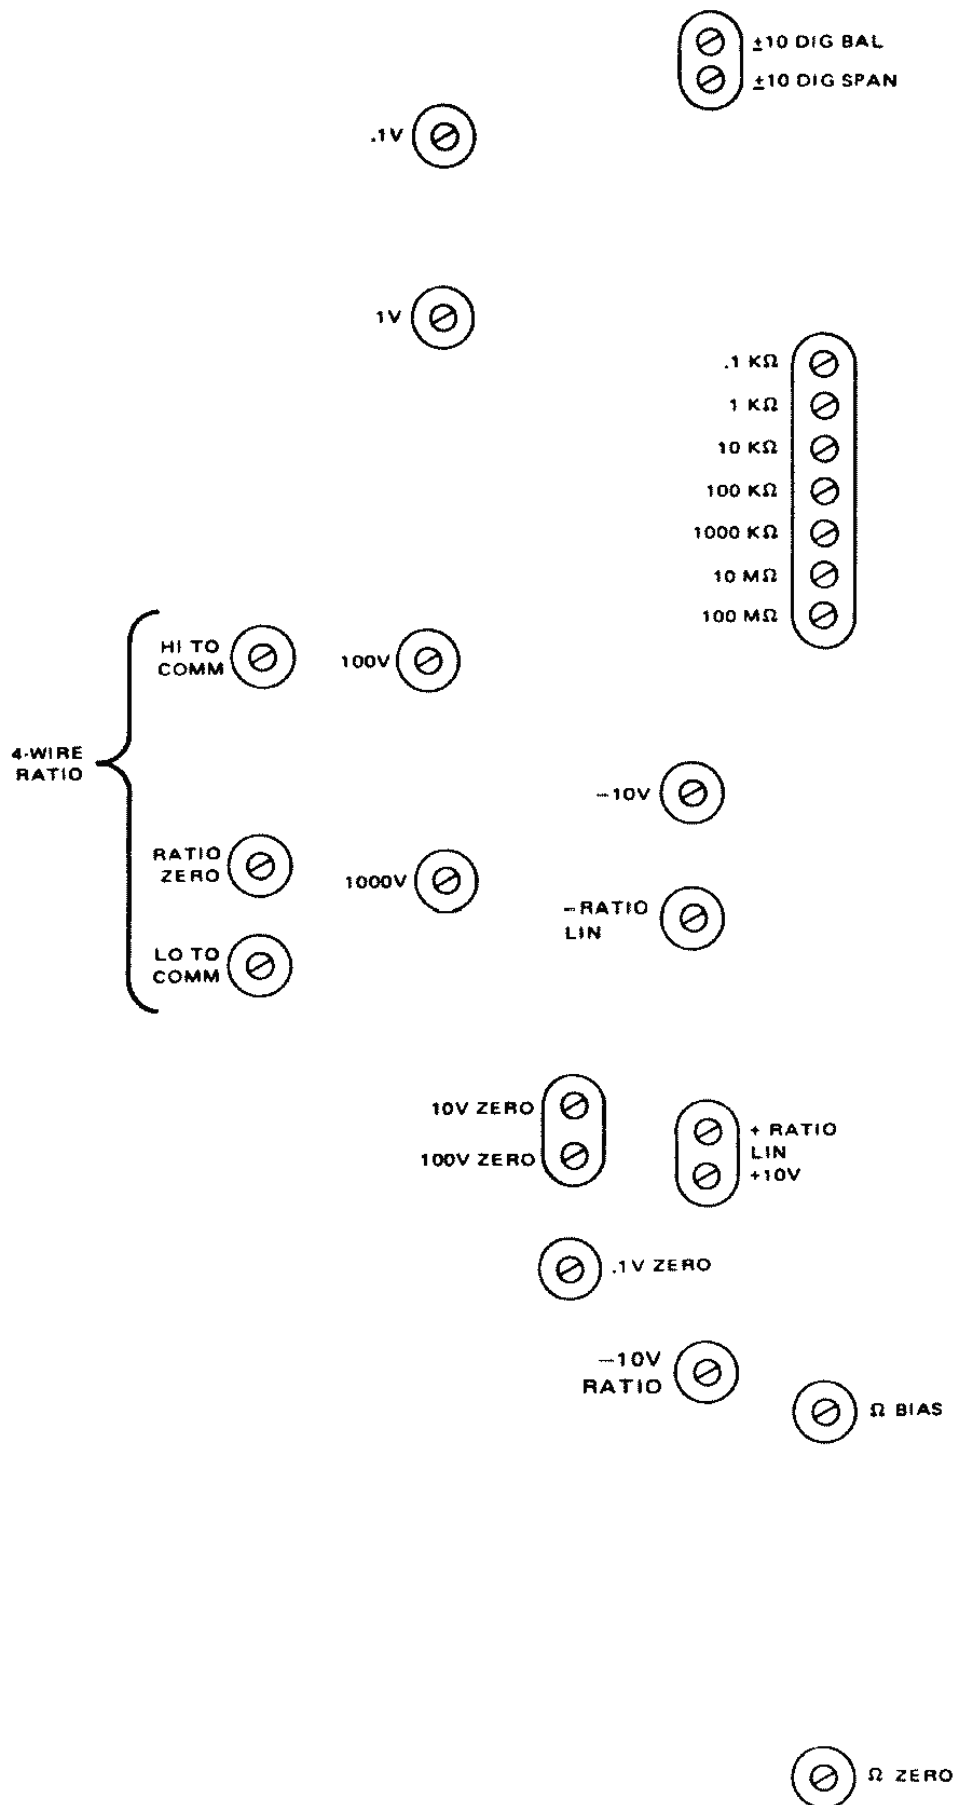
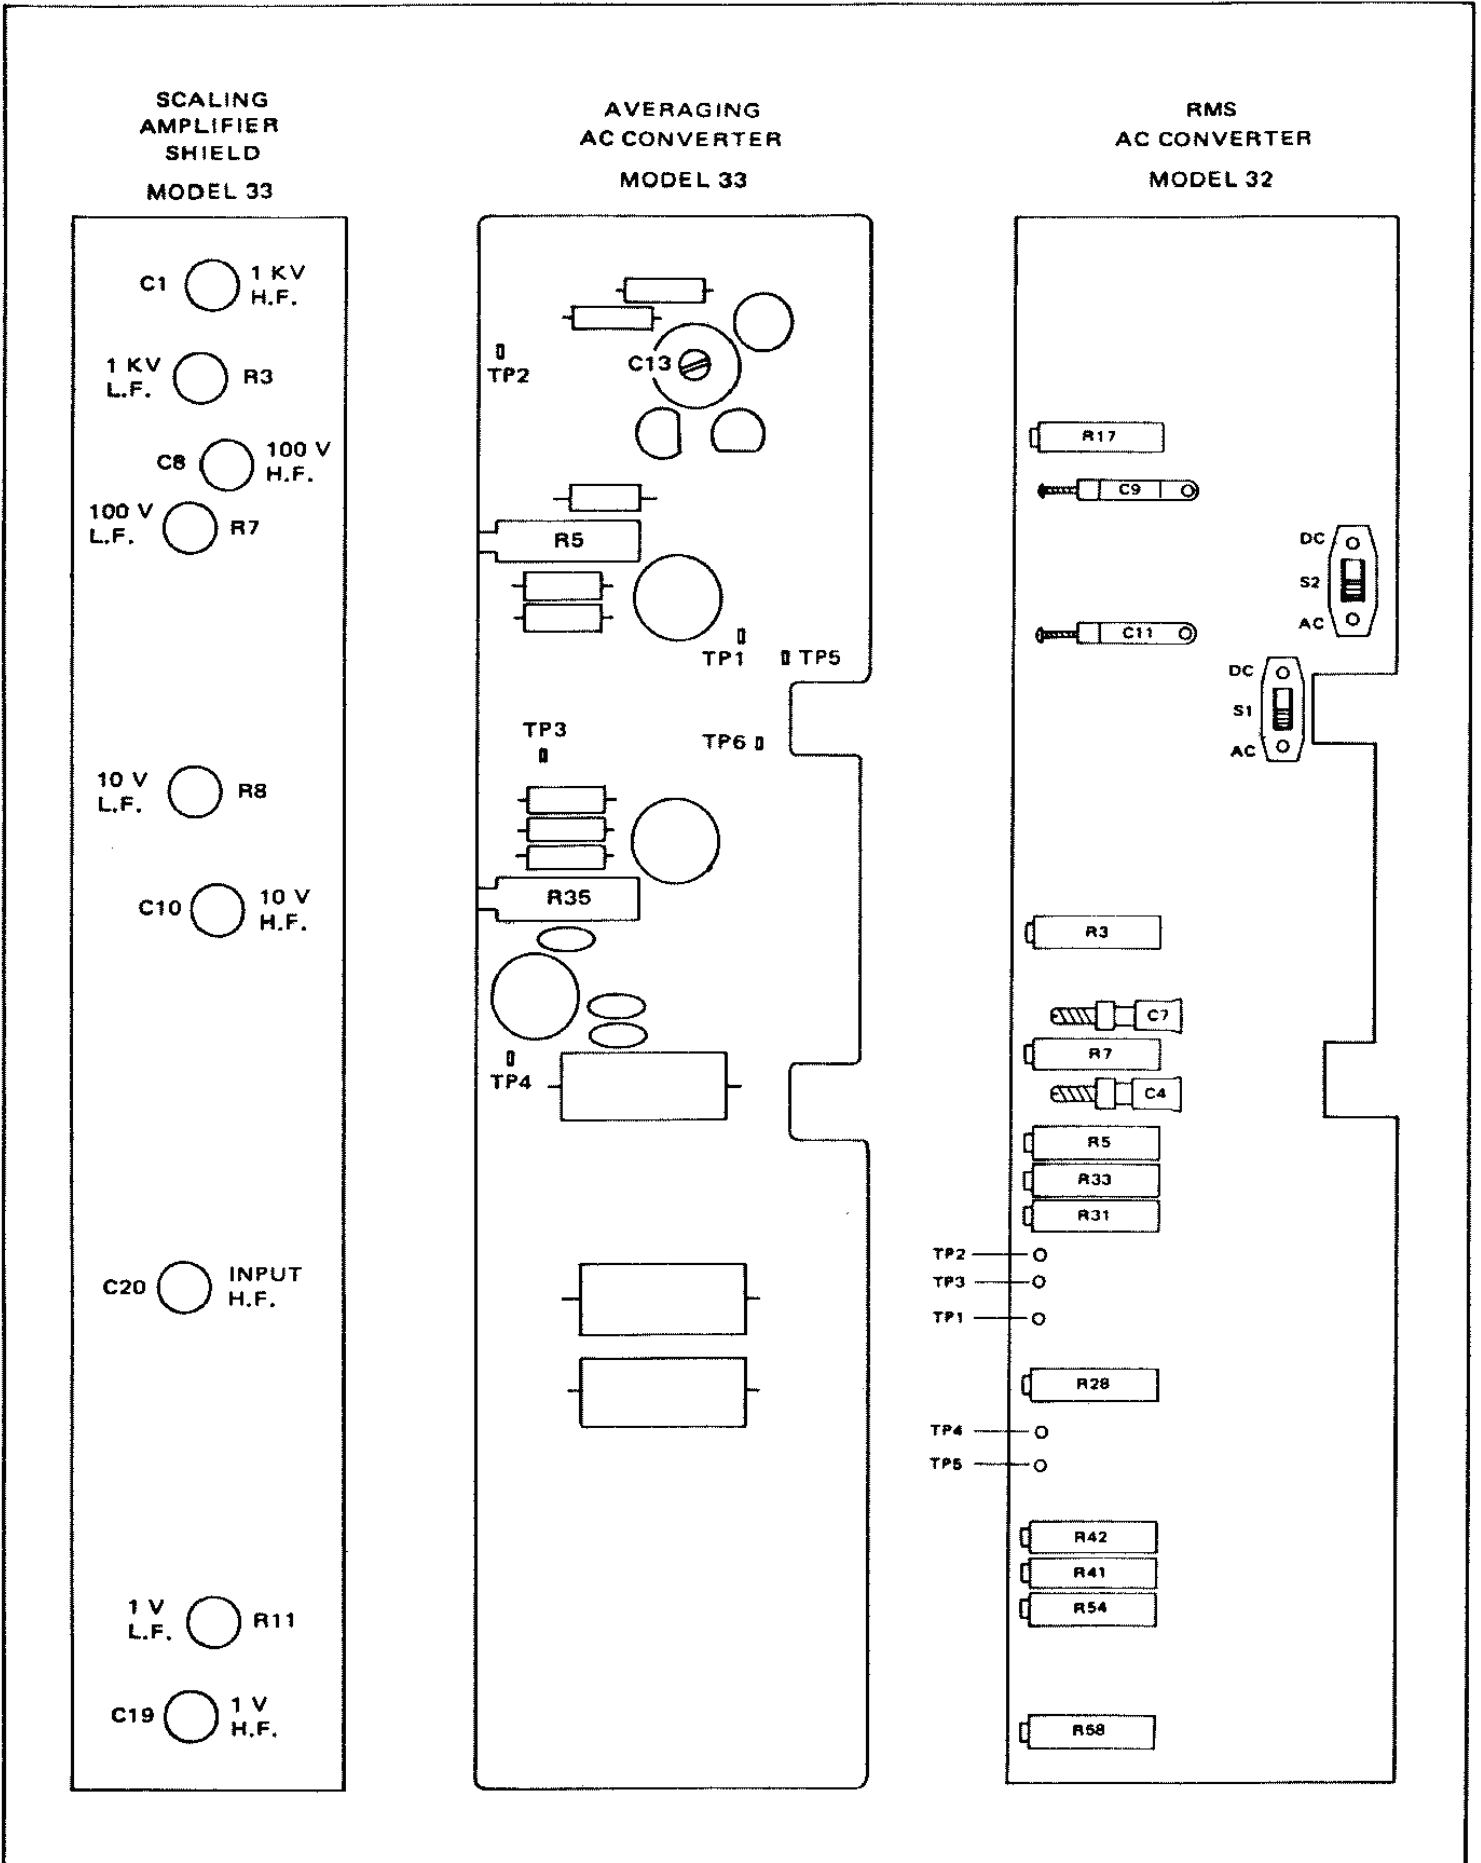

Figure 5.4 - Adjustment Locations
Figure 5.8 - AC Adjustment Locations
5.29 The location of the calibration points (except ac) used in the calibration procedure are shown in figure 5.4. The ac calibration points are shown in figure 5.8. Access to the calibration points is gained by removal of the top cover; the cover is secured to the DMM by captive screws located in each of the four corners of the cover. Directly beneath the cover is located a metal shield with access holes to calibration points (except ac). The shield is part of the instrument internal guard system and helps to reduce noise. For reference, an abbreviated form of the basic calibration procedure is silkscreened to the top of the shield. The shield is to be left in place unless specific instructions are given for removal.
5.38 OHMS CALIBRATION (Figure 5.4).
5.42 AC Converter Zero (Figure 5.8).